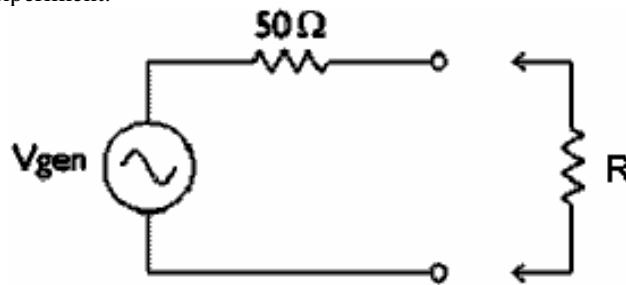

Figure B-2
Note that  $R_1 + R_2$  is the total resistance of the circuit. We can use a voltage divider to determine how much effect a device has on a circuit. In the simple electrical model of the function generator shown in figure B-2, the internal impedance of the function generator is 50 ohms, and the voltage that the function generator puts out internally is  $V_{gen}$ . The default assumption is that the resistive load driven by this source is also 50 ohms. Matching the internal impedance of a source to the impedance of the load gives maximum power transfer. We will investigate how this works in this part of the experiment.
- Now we need to set up a signal on the function generator. We want this signal to have a frequency of 1K Hz and an amplitude of 100 mV. Hit the VAMPL button on the function generator. Set the function generator display to 200mV peak-to-peak. (In an ideal world, this should give you the 100mV amplitude that you want, but we know from part A that this will probably not be the case.) Hit the FREQ button on the function generator. Set the frequency to 1K Hz. Your circuit currently looks like figure B-2, with R equal to the 1Meg ohm impedance of the scope: